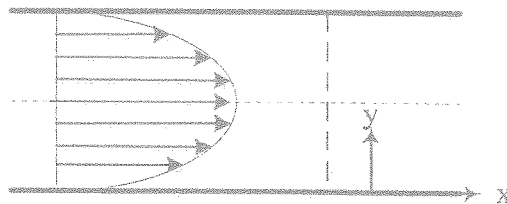

Figure Q1
c) Considering the velocity expression for  $u$  and  $v = 0$ , generate an expression for stream function  $\Psi$  along the vertical dashed line in Figure Q1. Consider  $\Psi = 0$  along the bottom wall. What is the value of  $\Psi$  along the top wall? Compare and discuss your result to that obtained in part (b).